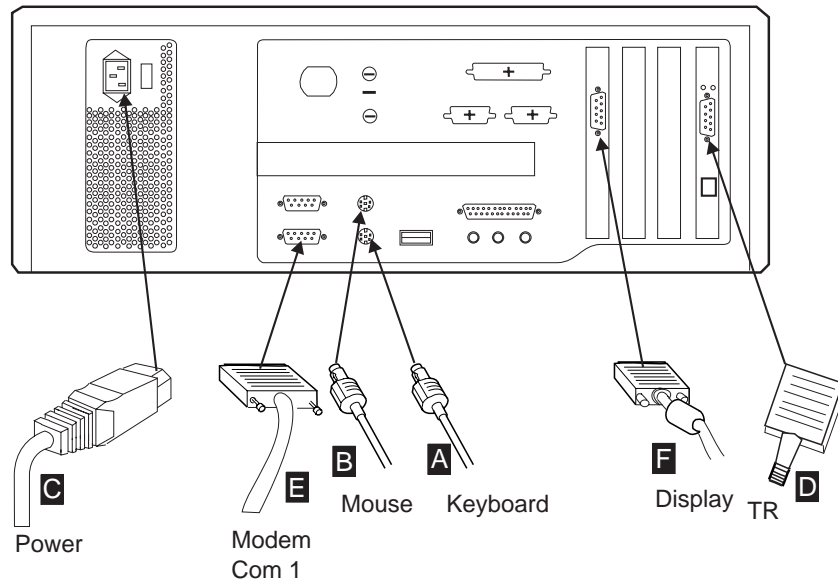

Figure 1-10. Cable Locations
18. ____ **Connect** the cables to the 6563 as follows (see Figure 1-10 on page 1-16):